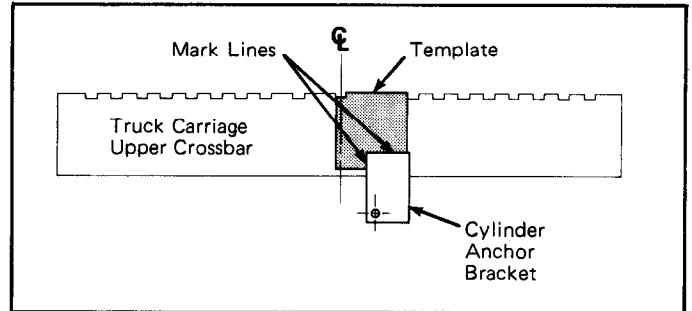

Figure 14. Use Template to Locate Cylinder Anchor Bracket on Truck Carriage.
- c. Re-install the bearing segments as shown in Figure 14. Apply one of the recommended lubricants listed on the following chart about 1/32 inch thick to the bearing segments.
1. Fold the template (supplied with the sidshifter) along the crease lines. Fit the smaller fold into the center notch on the truck carriage and fold the remaining template over the notches to the right of the centerline. See Figure 14.
2. Mark the two lines as shown in Figure 14.